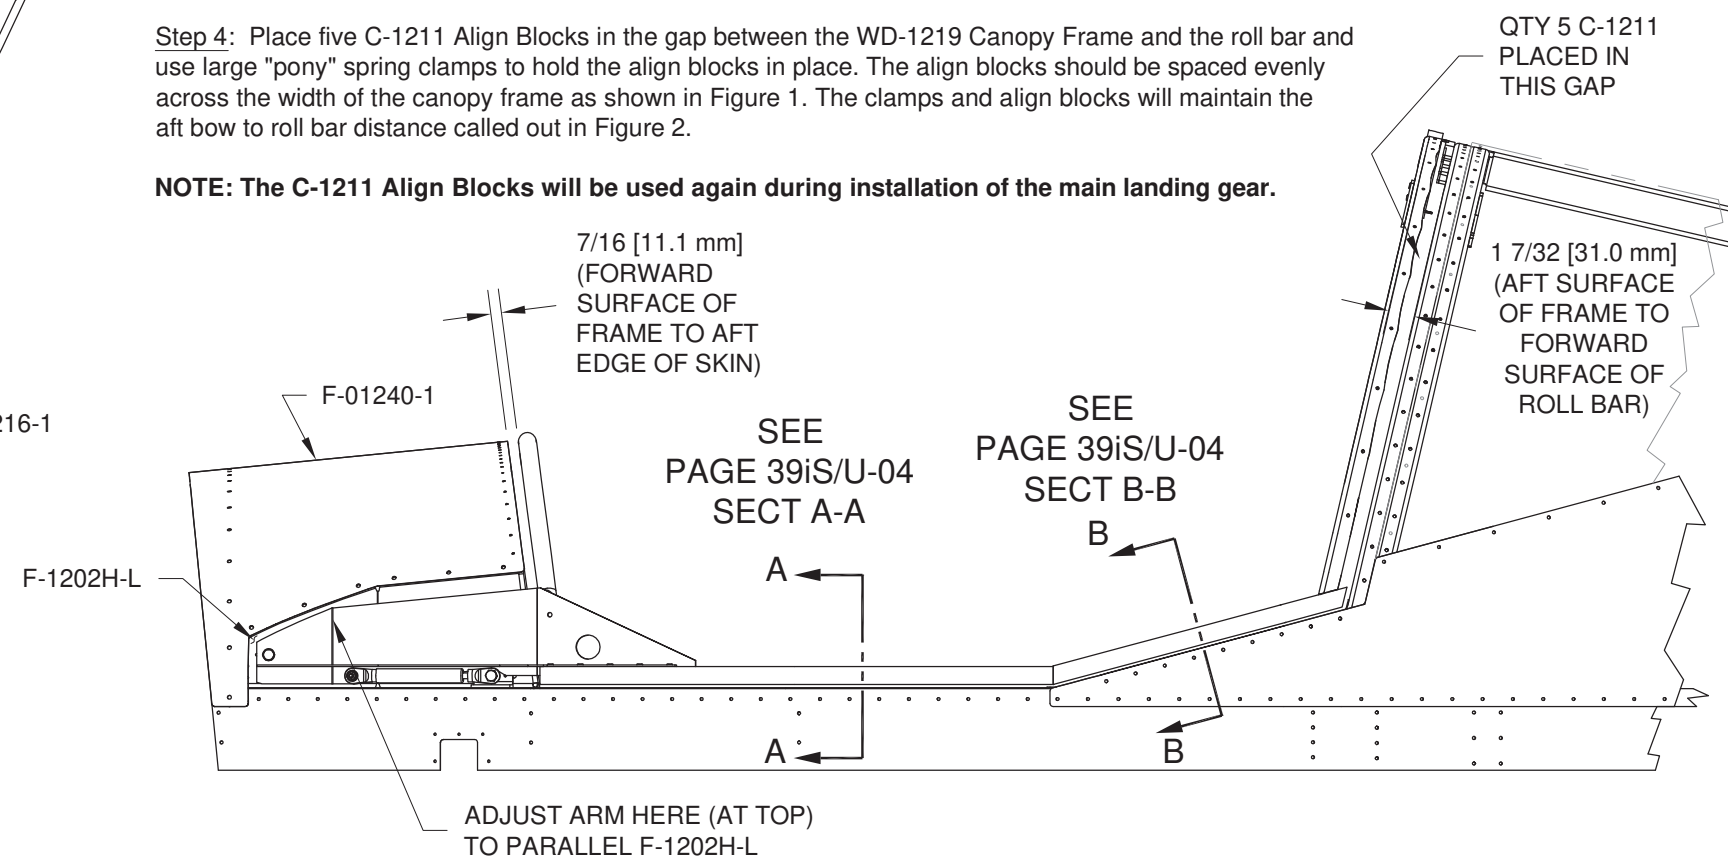

FIGURE 2:
Adjust the canopy arms at the bend line to make the portion of the arm that is forward of the bend line parallel to the adjacent F-1202H-L. See Figure 2 call-outs.
Step 4: Place five C-1211 Align Blocks in the gap between the WD-1219 Canopy Frame and the roll bar and use large "pony" spring clamps to hold the align blocks in place. The align blocks should be spaced evenly across the width of the canopy frame as shown in Figure 1. The clamps and align blocks will maintain the aft bow to roll bar distance called out in Figure 2.